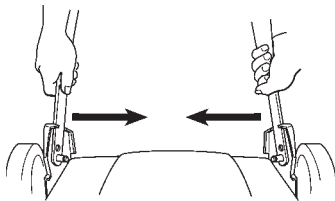

Figure 29
1. Push in the right bottom handle section until the handle slides past the stops on the handle brackets (Fig. 29).